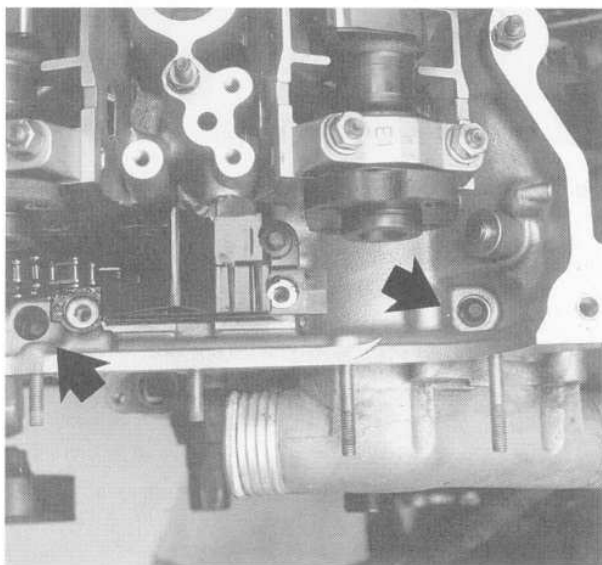

Fig. 12. Cylinder head-to-timing chain cover mounting bolts (arrows).
22. Remove the three bolts holding the lower timing chain cover to the cylinder head (use Torx E8 socket). See Fig. 12.